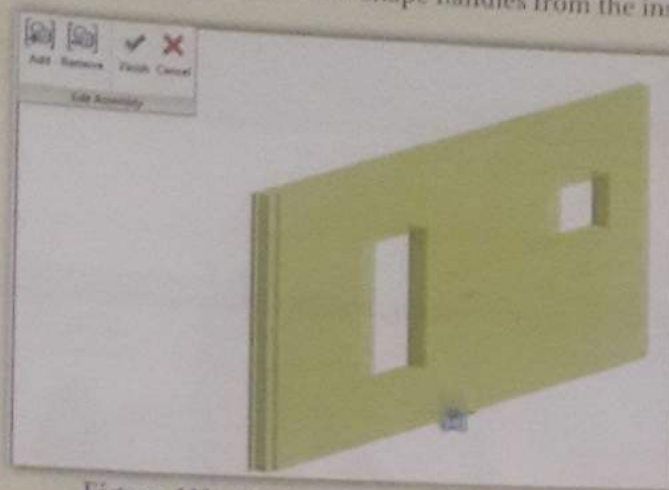

Figure 111: Edit Assembly
- b. Select the element wall » Select edit assembly icon from the assembly panel.(Figure 111).